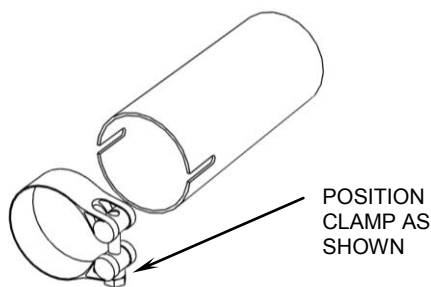

FIGURE 2
5. Place the supplied 27-61MSC clamp onto the lower muffler slip collar then slide the rear headpipe / muffler assembly onto the front headpipe and into the rear exhaust port. Bolt rear headpipe to the rear cylinder using the stock acorn nuts from Step 1. See Figure 2 for clamp orientation.
9. To install the front heatshield, first slide the rear portion of the heatshield over the muffler, continue to slowly slide it forward pushing the front of the shield gently into place between the frame and motor (Hint: Spread the hose clamps apart slightly to make it easier to slide them over the muffler assembly and headpipes). Make sure the muffler clamp doesn't interfere with the heatshields and is aligned as shown in Figure 2. Snug the heatshield clamps but **DO NOT TIGHTEN.**